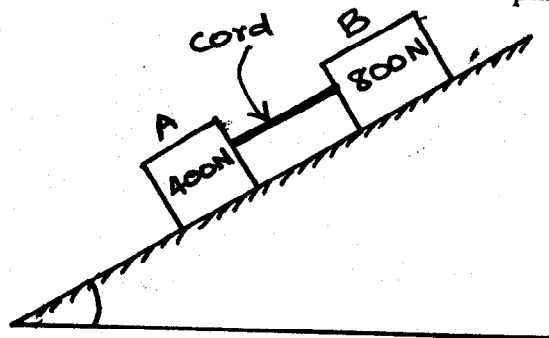

Fig. Q1.
- Q1. A cord connects two bodies A and B placed on an inclined plane as shown in fig.Q1. The coefficients of friction of body A is 0.15 and that of body B is 0.4. Determine